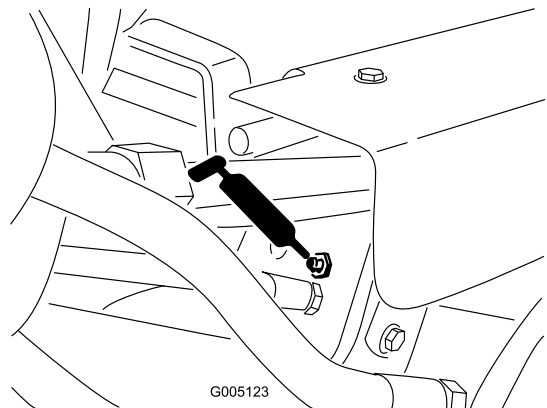

Figure 41
- Vérins de relevage (3) (Figure 41)